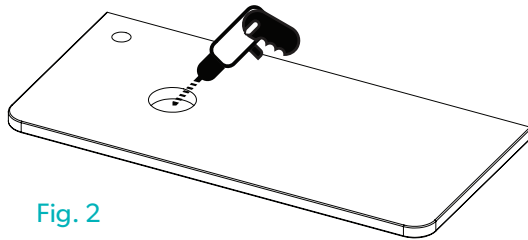

Fig. 2
4. Using a suitably sized hole saw or jig saw, cut through the countertop from above, as per **Fig. 2**.